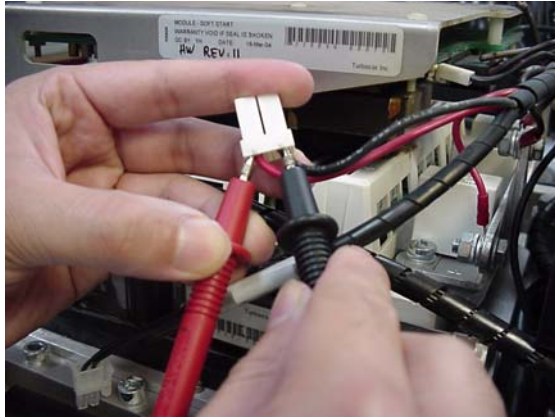

Figure 4-52 HV DC-DC Converter DC Input Voltage Measurement
8. Insert the red (+) meter probe into the red (+) cable end of the DC cable connector, and the insert the black (-) meter probe into the black (-) cable end of the DC cable connector, as shown in Figure 4-52. The meter should read values in accordance with Table 4-11.